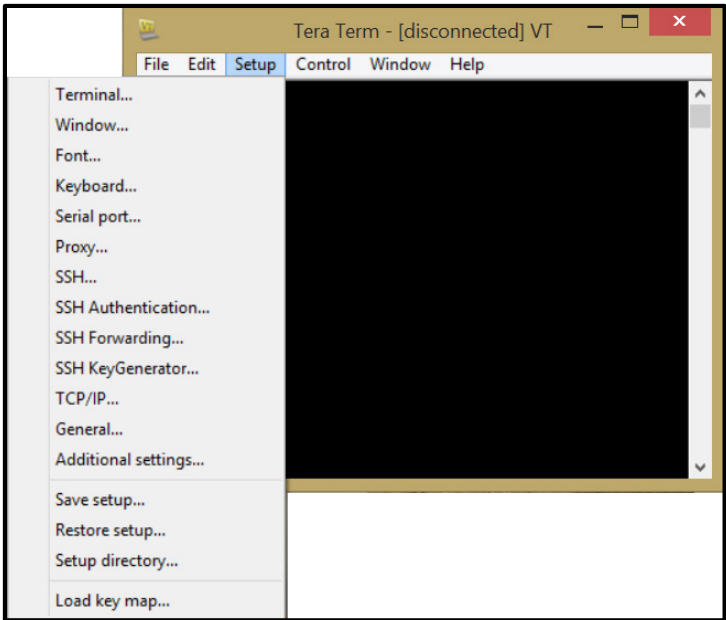

FIGURE E-2. Setup Selections
2. FIGURE E-2 shows the standard *Tera Term* working screen and the pull-down menu for **Setup**. To see this screen, click on **Setup** at the top of the screen.